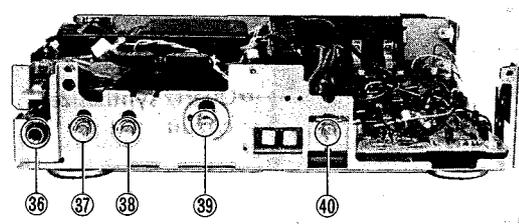

Fig. 5
13. Remove the 5 nuts (㉛ ~ ㉞ in Fig. 5) used to secure the jack, volume and switch.